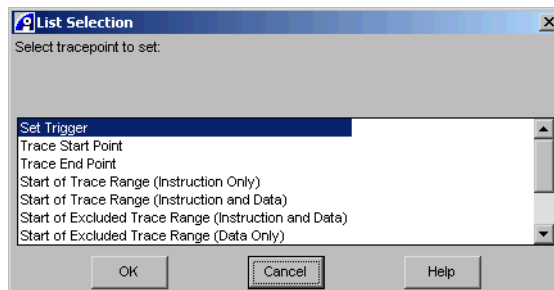

Figure 2-9 List Selection dialog box for setting unconditional tracepoints
The Set/Toggle Tracepoint List Selection dialog box, shown in Figure 2-9 on page 2-40, enables you to set trace ranges, trace start and end points, and triggers. These can be used individually or in conjunction with other tracepoints, to ensure capture of trace information for the precise area of interest.
1. Display the dialog box, shown in Figure 2-9, using one of the following methods: